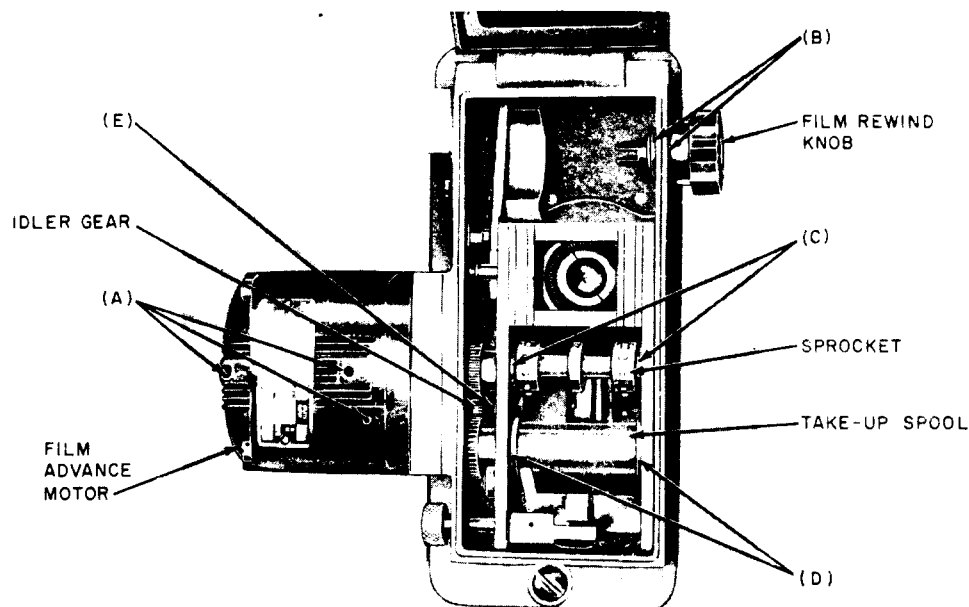

Fig. 2—KS-16007 Camera—Lubrication Points
(a) **Motor:** Fig. 2, (A)—The film advance motor of the KS-16007 camera shall be lubricated annually with one drop of KS-7470 oil in each of the three oil holes. ♦The North American Philips motor does not require lubrication. Figure 3 shows the two motors used on the KS-16007 camera.♦
(b) **Film Rewind Knob Bearing:** Fig. 2, (B)—The bearing of the film rewind knob shall be lubricated annually with one drop of KS-7470 oil at each end of the bearing.
(c) **Sprocket Bearings:** Fig. 2, (C)—The sprocket bearings shall be lubricated annually with one drop of KS-7470 oil at each bearing.
(d) **Take-Up Spool Bearings:** Fig. 2, (D)—The take-up spool bearings shall be lubricated annually with one drop of KS-7470 oil at each bearing.
(e) **Idler Gear Bearing:** Fig. 2, (E)—The idler gear bearing shall be lubricated annually with one drop of KS-7470 oil.